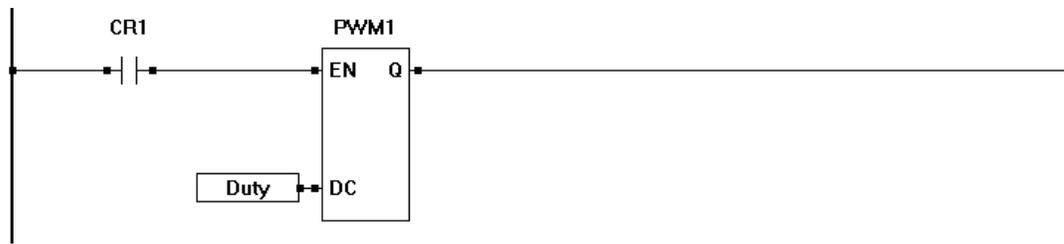

Figure 8-4
To control a PWM output, specifically when it is enabled, disabled and its duty cycle, the **PWM** function block is used. This function block has two inputs (EN for Enable and DC for Duty Cycle) and also has one output (Q). When the PWM function block is enabled (the EN input is true), the PWM channel is active and operating at the frequency defined in the project settings and the Duty Cycle (variable connected to DC of the PWM function block). When the EN input is false, the PWM channel output is disabled. Figure 8-4 illustrates the PWM function block in a sample circuit.
In addition to an adjustable duty cycle, the PWM clock frequencies (CLK A / CLK B) can be changed in the ladder diagram project by use of the PWM\_FREQ function block. The PWM\_FREQ function block has two inputs (EN for enable and F for frequency) and one output (Q). When the EN is true, the PWM channel frequency is changed to the value of the variable connected to the F input of the function block. Figure 8-4 illustrates a sample circuit using PWM\_FREQ.